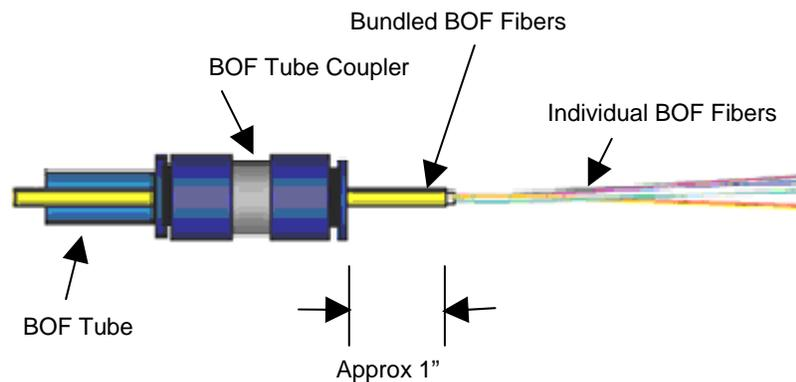

Figure 2
c. Using the bundle jacket stripper, remove the exposed bundle jacket in approximately 160 mm (6 inch) lengths back to the mark (Figure 2).